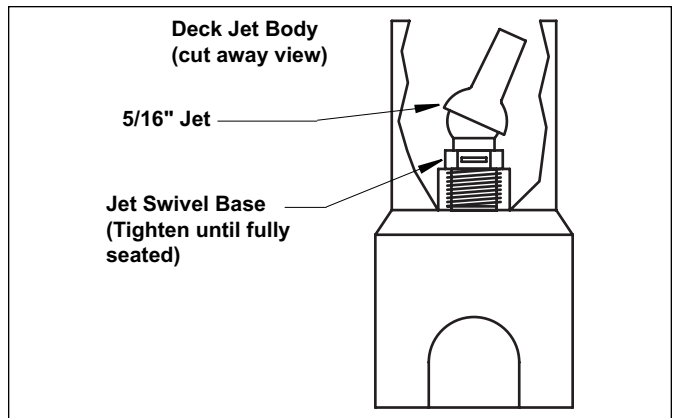

Figure 6. Snap Jet Onto Jet Swivel Base
- Place the Jet onto the Jet Swivel Base. Push, by hand, until the Jet snaps over the Jet Swivel Base. (it may be easier to lean the Jet to one side of the Deck Jet Body and push). **DO NOT use any tools to install the Jet** (see Figure 6).